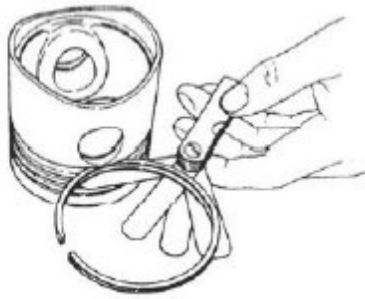

Figure 93.
8. Place each compression piston ring in the groove as shown (Figure 93). Use a feeler gauge to measure the clearance between the piston ring and the piston ring land. Record the measurements. See *Piston Ring Mechanical Specifications Chart*. Replace the piston if not within specification.